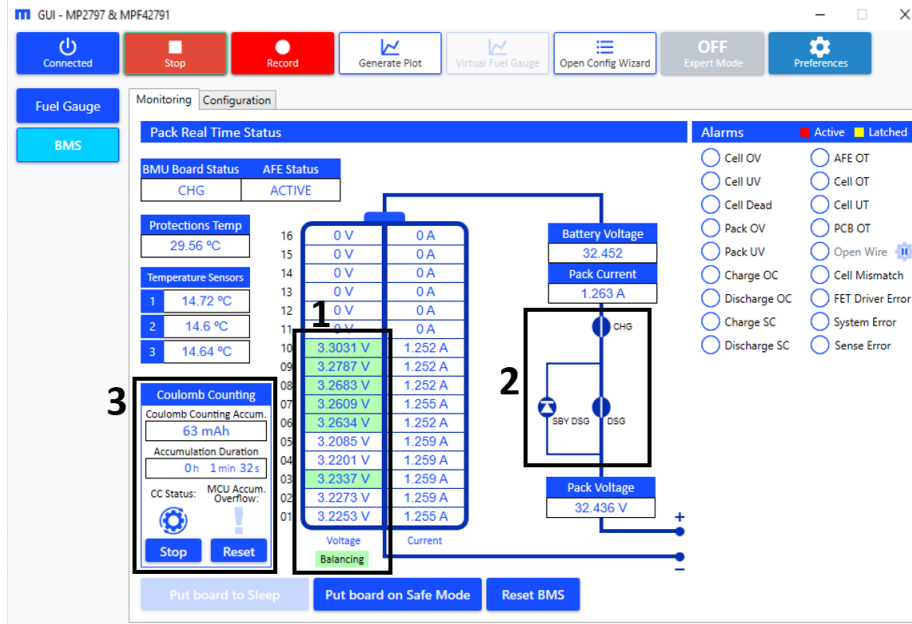
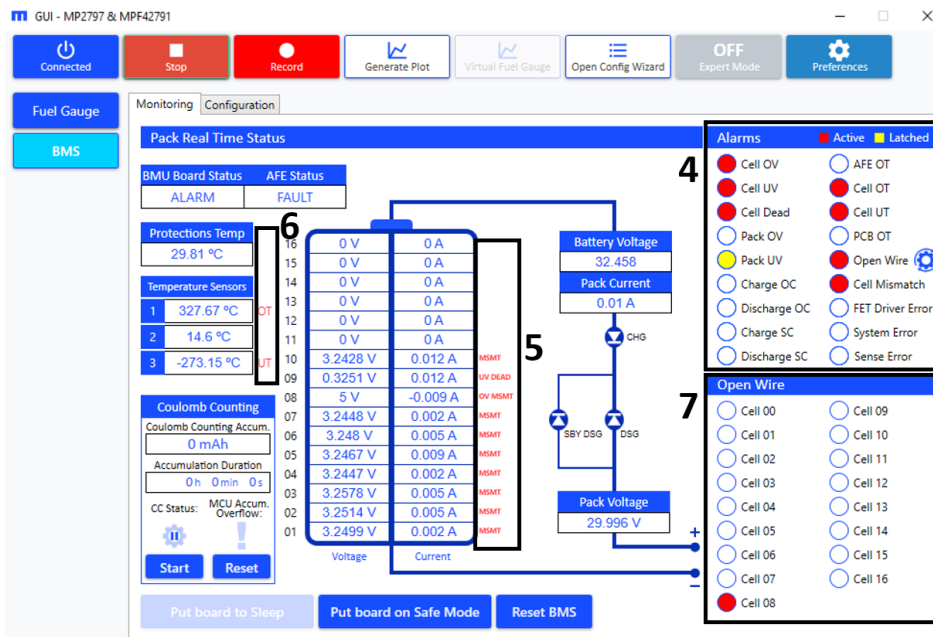

Figure 53: BMS Monitoring 1
Figure 54: BMS Monitoring 2
3. Figure 53 and Figure 54 on page 40 show the BMS Monitoring windows.
4. If a cell is balancing, the background of its displayed voltage is highlighted and a legend appears below the voltage title (see Figure 53).
5. The status of each protection FET is displayed. If the FET is displayed as a diode, this means that the FET is open; otherwise, the FET is closed (see Figure 53).
7. In the Alarms display, an alarm is displayed in red if the conditions to trigger the alarm are met. An alarm is displayed in yellow when the alarm’s conditions are no longer met but the status is latched. If an alarm is neither active nor latched, an alarm is displayed in white (see Figure 54 on page 40).
If a fault is disabled but the fault conditions are met, the fault is displayed but the BMS does not enter an alarm mode (see Figure 53 and Figure 54 on page 40).
8. Each cell has a display that shows the real-time status for over-voltage (OV), under-voltage (UV), dead (DEAD), and mismatch (MSMT) conditions.
9. Each temperature sensor has a display showing the real-time status for over-temperature (OT) and under-temperature (UT) conditions.
11. To stop monitoring, click “Start”. It should update to “Stop” (see Figure 53 on page 40).